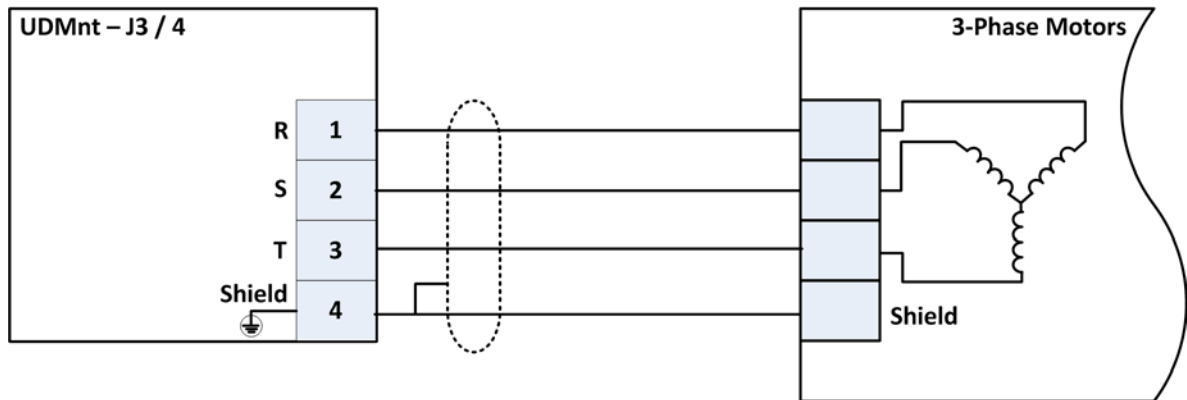

Figure 20. 3-Phase Motors (AC synchronous, Step Motor) Connections
- 3-phase (AC synchronous, step motor), see Figure 20.